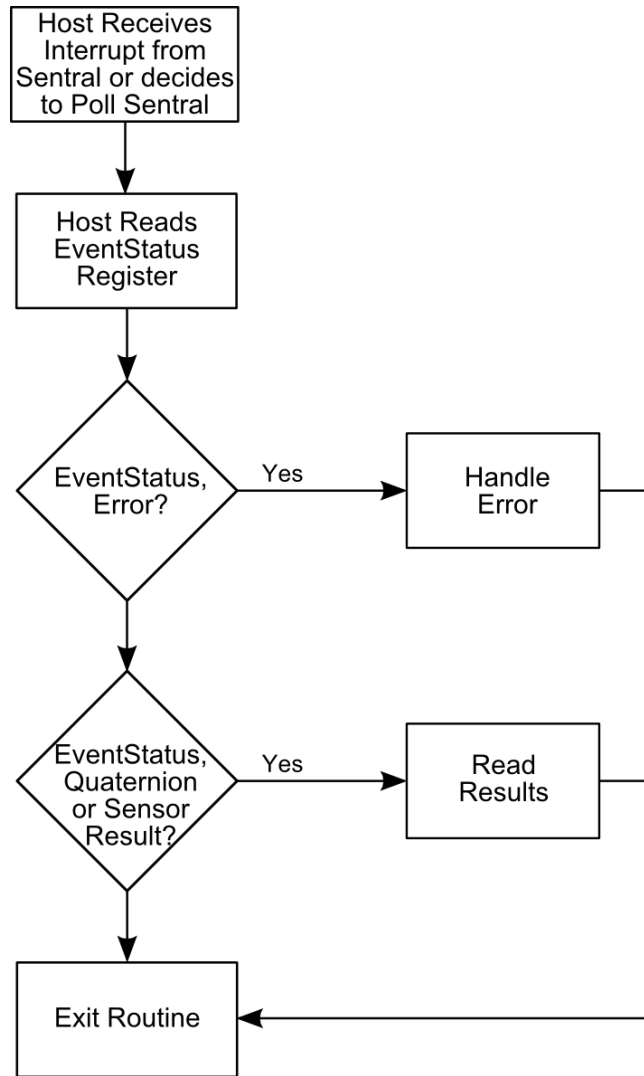

Figure 4-3: SENtral Normal Operation Flow
After performing the steps listed above, SENtral is ready to start generating orientation data. The registers used to run in Normal Operation are given in Table 4-2, the steps to follow comes after this, and a flow diagram is given in Figure 4-3.
- Interpret and act on the EventStatus register in the priority shown in Figure 4-3. If bit [1], the Error bit, is '1', see Section 4.3.1. If bits [2], [3], [4], or [5], the Results bits, are '1', see Section 4.3.2. Bit [0], the CPUReset bit, should never be '1', since this bit only can be '1' after a Reset or powering up and prior to loading the Configuration File, and on the SENtral M&M module loading of the Configuration File is automatically performed after powering up.
Reading the EventStatus register clears it. It is possible for more than one bit position to be '1' in the EventStatus register, especially if the host does not always read the EventStatus register after receiving an interrupt. Similarly, if multiple bits are set to '1' in the EventStatus register, once the register is read all the bits will be set to '0'. For this reason the EventStatus register should be processed in the priority shown in Figure 4-3, as information will be cleared for events that are not handled.